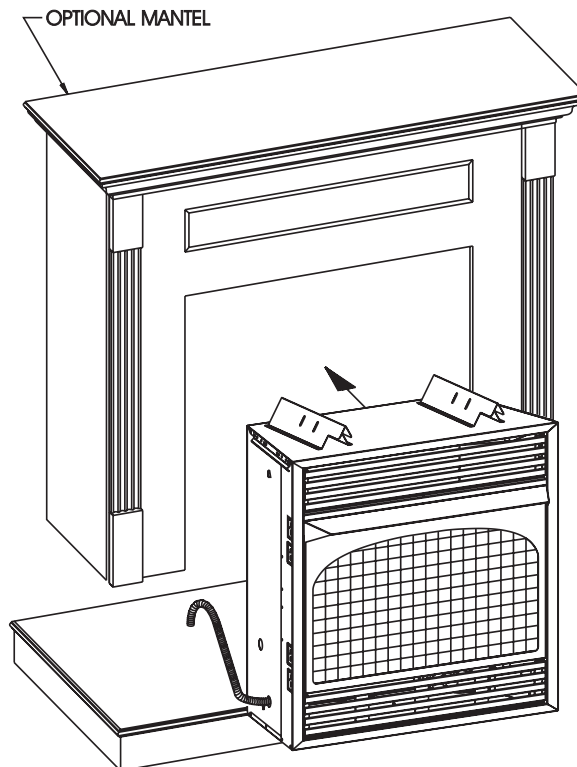

**Figure 13**
3. Place hearth base accessory against wall at installation location. Cut an access hole in hearth base top and laminate trim if used to run flexible gas line to fireplace (see Figure 13). Make sure to locate access hole so cabinet mantel will cover it when installed. *Note:* You can secure base to floor using wood screws. Countersink screw heads and putty over.
## Placing Hearth Base Accessory Against Wall ( Figure 13)